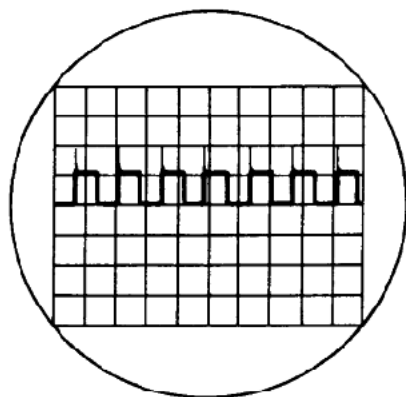

Fig. 10
9. Square Wave trace as in Fig. 10□	C6 o/c